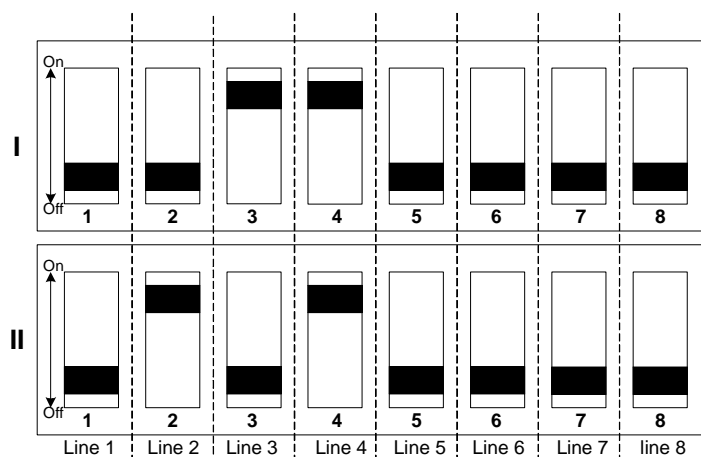

Fig. 2
Duty mode of lines is determined by a pair of switchers (pos.4, fig.1). Each line has a pair of switchers, whose position is determined by the operation mode (fig . 2)